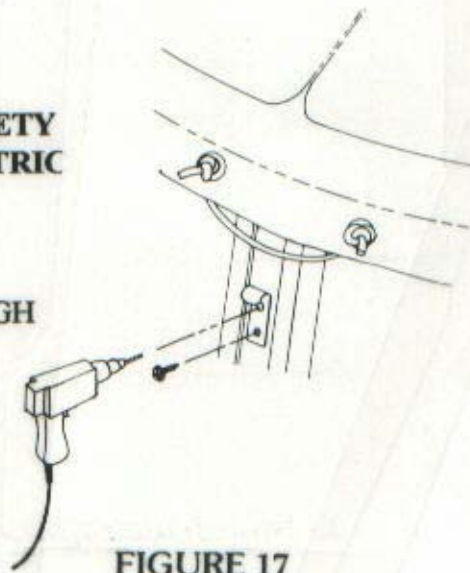

FIGURE 17
- F. Using an electric or cordless drill, drill your 3/16" holes. Fasten the tiedown hooks with slotted hex head screws, as shown in Figure 17. Pull the neoprene cord under the hook. There should be firm tension on each cord. You can get additional tension by re-knotting one end of the cord. See Figure 17.